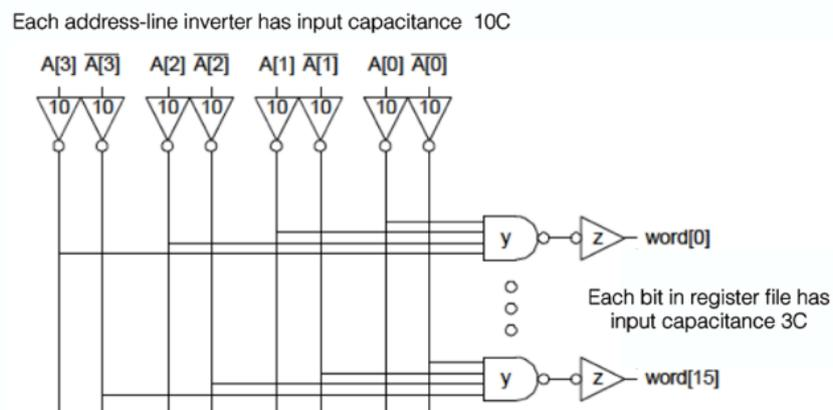

Figure 6.4: Detail of 4-to-16 decoder for addressing register file.
In this problem your task is to size the decoder circuitry shown in detail in Figure 6.4.
- a) How should the 4-input nand gate (labelled y in Figure 6.4) and inverter (labelled z in Figure 6.4) be sized for minimum delay with the assumptions given in Figure 6.4? Assume that an nMOS transistor has twice the current of a pMOS transistor of the same width. (5 p)